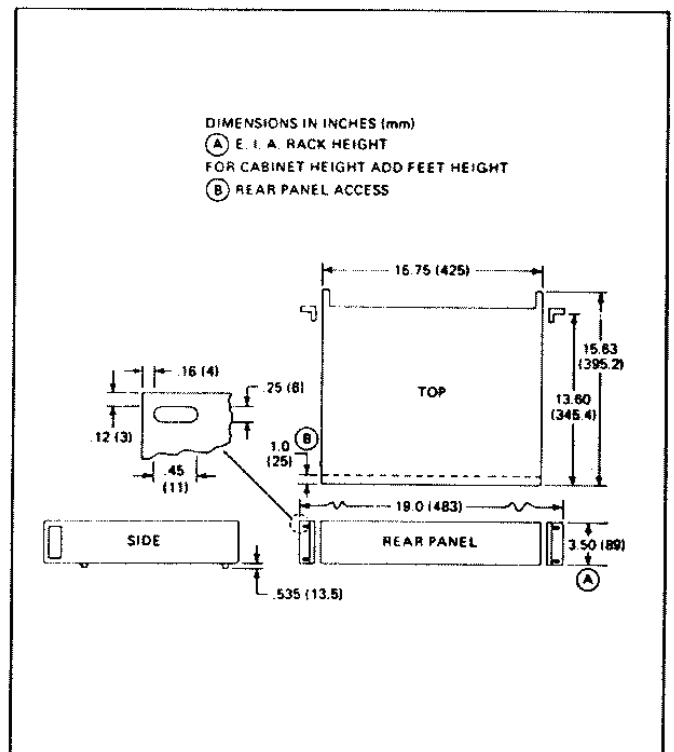

Figure 1.2 - Dimensions
1.31 A dimensional outline of the Model 5900 is shown in figure 1.2.